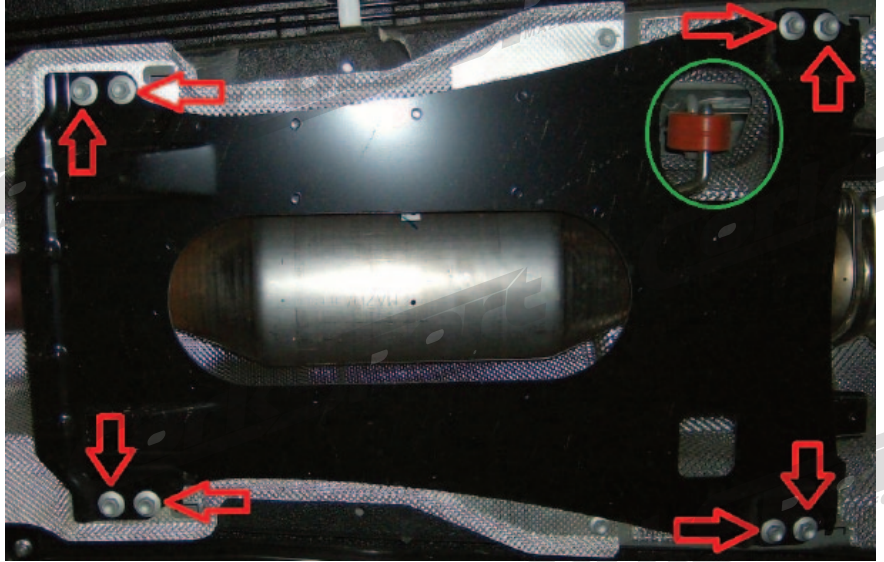

Figure 1
A) Using a 12mm socket and or end wrench, remove the eight (8) 12mm bolts that hold the tunnel chassis brace in place as shown by the red arrows in Figure 1. Slide the brace forward off of the hooks and off of the vehicle.